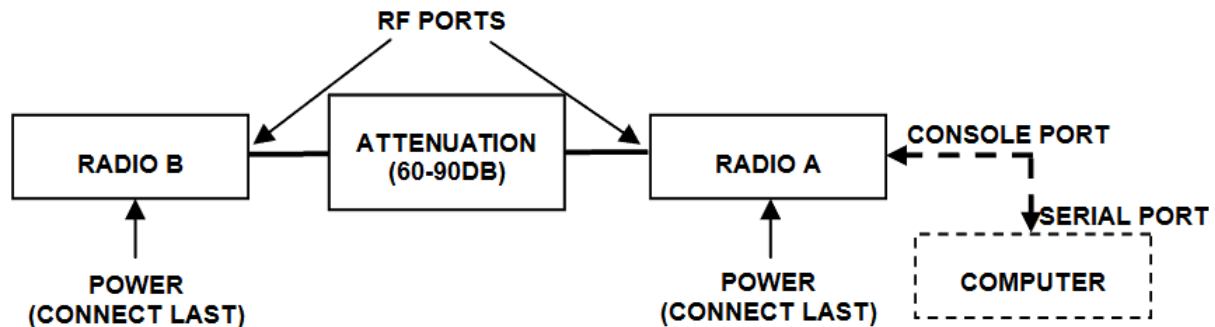

Figure 49 Basic back-to-back bench test configuration
- 1 Connect attenuation and (known-good) RF cable(s) between radio pair, shown in Figure 49.
Connect the system as shown in Figure 49, using the combination of fixed and variable attenuation between the radio's RF ports. Connect the volt meter to either radio's RSL test point and associated reference ground connection.